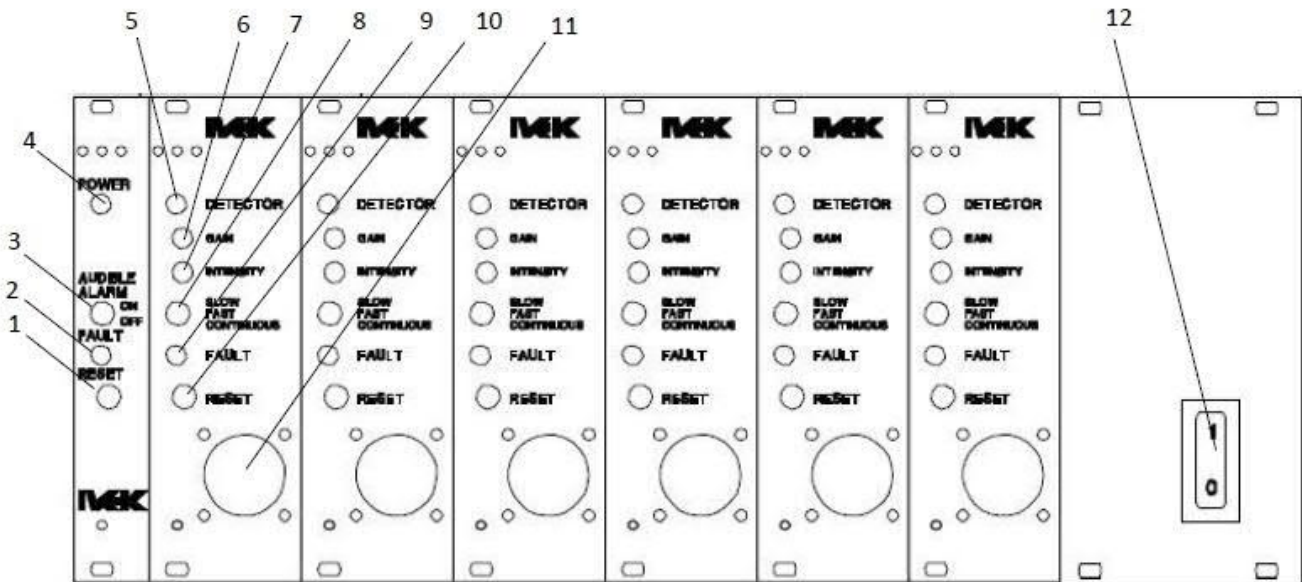

Figure 11.1 Multiple Liquid Eye Front Panel (Model # 520174-##### shown for reference)
**11.1.1 Front Panel (Figure 11.1)**